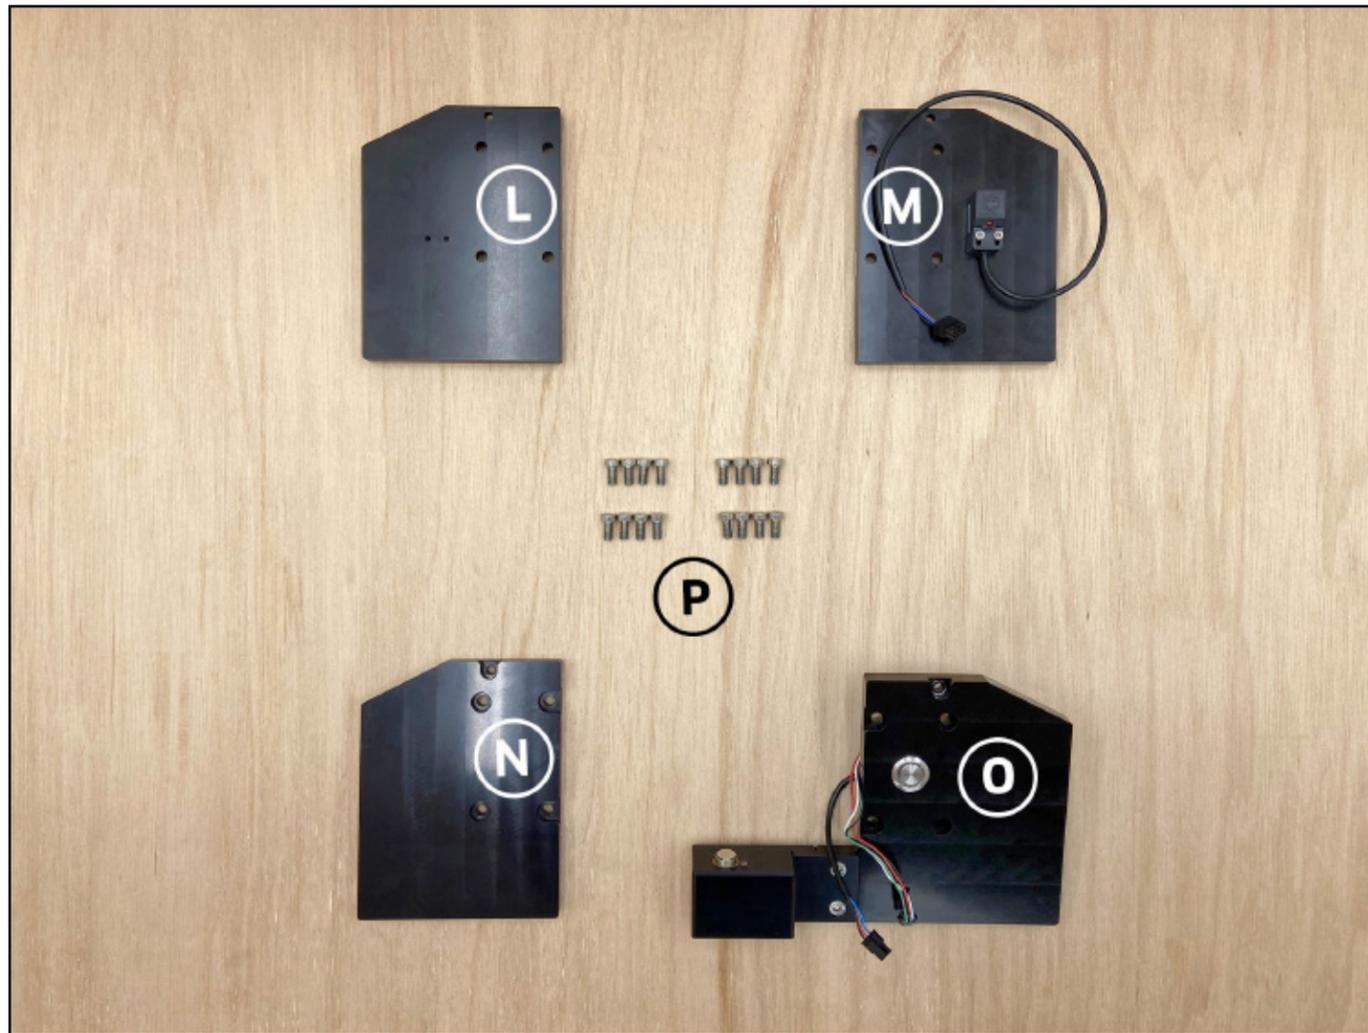

Figure 3-1
Step 3 – Endplates box contents; see *Fig. 3-1*.